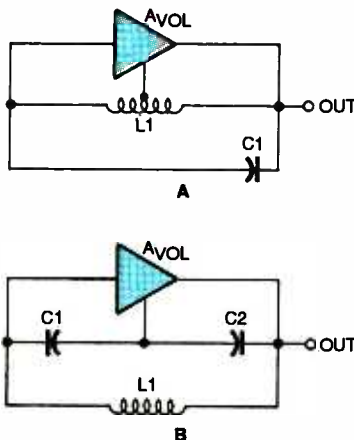

Fig. 2. Shown here are the basic makings of a Hartley oscillator (A) and a Colpitts oscillator (B).
Receiver Circuit. The superheterodyne receiver (as shown in Fig. 2) is composed of an NE602 double-balanced mixer (U2), followed by a
Fig. 2. The superheterodyne receiver for the Car Security System, in addition to the MC145027 programmable decoder, U6 (the other half of the two-chip set), is composed of an NE602 double-balanced mixer (U2), followed by a combination high-gain intermediate-frequency (IF) amplifier and detector/amplifier circuit (U3 and U4, respectively), and an LM358 dual op-amp.